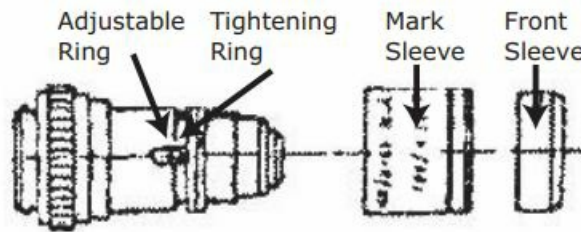

Fig. 1 - Objective Parts
10. If the image is in focus with the 10x objective, you can select other objectives and observe the specimen even if the fine adjustment knob has not been used by using the following method (See Fig. 1):